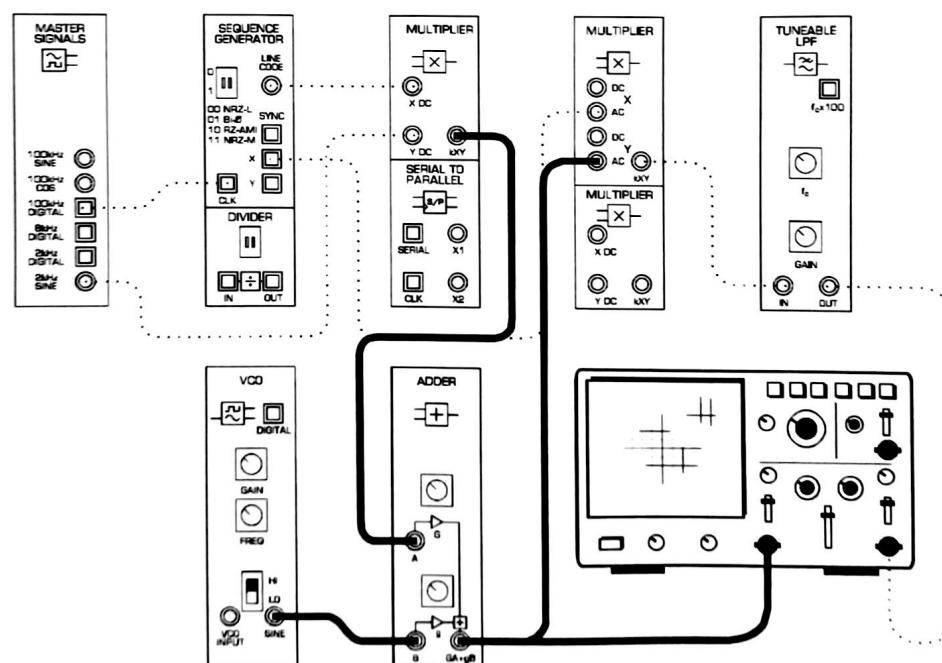
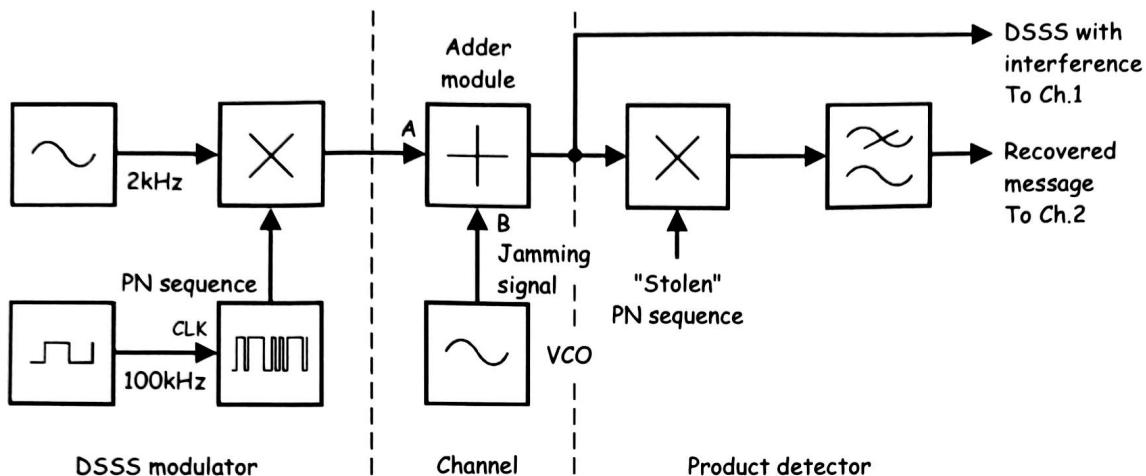

Figure 8
Figure 9
28. Modify the set-up as shown in Figure 8 below.
The set-up in Figure 8 can be represented by the block diagram in Figure 9 below. The VCO module is used to generate a variable frequency jamming signal that is added to the DSSS signal using the adder module.